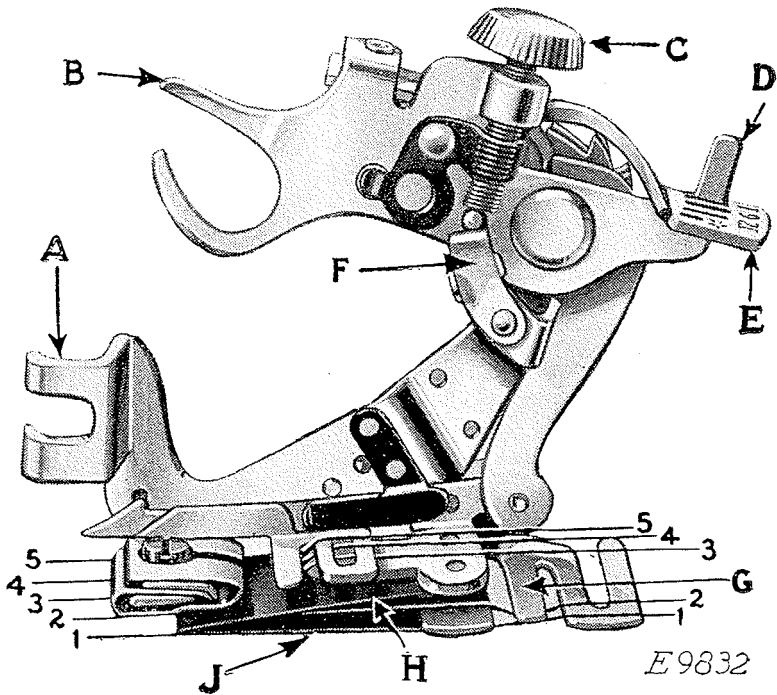
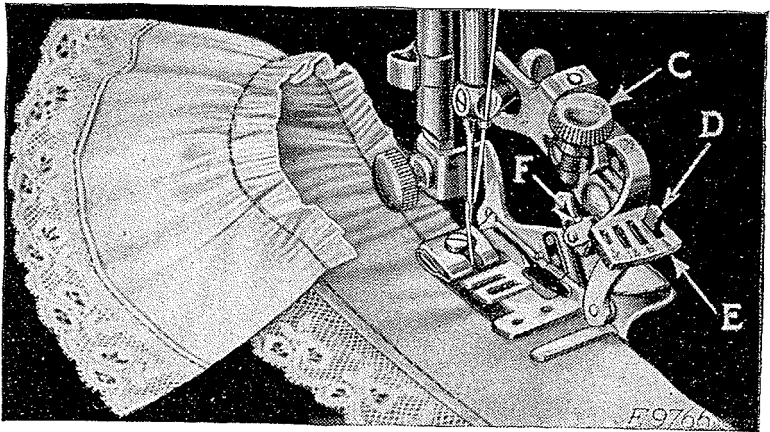
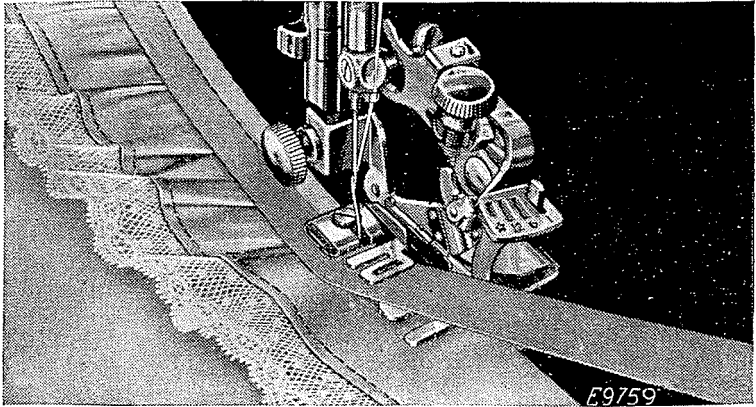
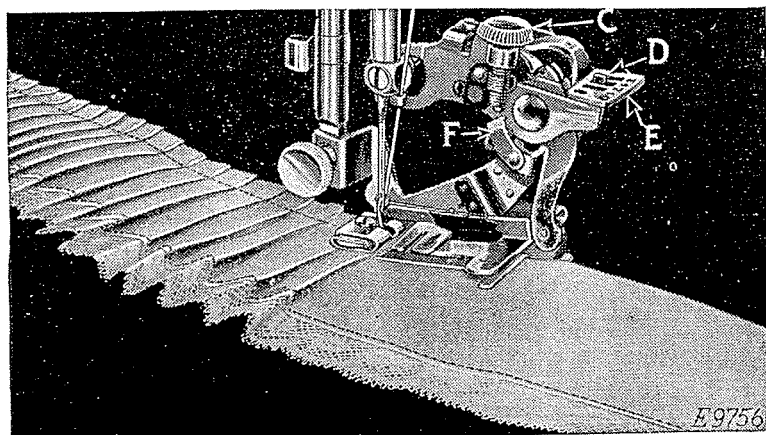

FIG. 59. THE RUFFLER AND ITS PARTS
FIG. 60
FIG. 62
FIG. 64
Lines 1, 2, 3, 4 and 5 shown in Fig. 59 indicate where the material is to be placed for various operations as follows:
Refer to Fig. 59 when inserting the material in the ruffler.
(SEE REFERENCES IN FIG. 59)
Raise the needle bar to its highest position and remove the presser foot. Attach the ruffler foot (A, Fig. 59) to the presser bar by means of the thumb screw, at the same time placing the fork arm (B, Fig. 59) astride the needle clamp as shown in Fig. 60.
The adjusting finger (F, Fig. 60) is not intended for gathering and should be moved forward or away from the needle, as shown in Fig. 60.
Raise the adjusting lever (E, Fig. 60) and move it to the left so that the projection (D, Fig. 60) will enter the slot marked "1" in the adjusting lever (E) when the lever is released. The ruffling blade will then move forward and back once at every stitch. Insert the material to be ruffled between the two blue blades, following the line 2 in Fig. 59. Draw the material slightly back of the needle, lower the presser bar and commence to sew.
To make fine gathering, shorten the stroke of the ruffling blade by turning the adjusting screw (C, Fig. 60) upward; also shorten the stitch. To make full gathering, lengthen the stroke of the ruffling blade by turning the adjusting screw (C) downward; also lengthen the stitch. By varying these adjustments, many pleasing varieties of work can be accomplished.
2, in Fig. 59. Place the garment to which the ruffle is to be attached, under the separator blade, following the line 1, in Fig. 59. Proceed the same as for gathering.
Insert the material to be ruffled between the two blue blades, following the line 2 in Fig. 59. Place the garment to which the ruffle is to be attached, under the separator blade, following the line 1, in Fig. 59. Place the material for the facing over the upper blue blade, as shown in Fig. 62, following the line 3, in Fig. 59. The facing may be straight or bias material. If the facing is to be on the right side of the garment, place the garment and
Insert the material to be ruffled between the two blue blades, following the line 2, in Fig. 59. This
The material for piping must measure about  $\frac{1}{4}$  inch wide when folded in the center and is usually cut on the bias. Place the piping material in the ruffler, following the line 4, in Fig. 59, with the folded edge of the piping to the right. The material to which the piping and ruffling are to be sewn should be folded on the edge and inserted in the ruffler, following the line 5, in Fig. 59.
Raise the adjusting lever (E, Fig. 64) and move it to the right so that the projection (D, Fig. 64)
will enter the slot marked "6" in the adjusting lever when the lever is released. The ruffling blade will then move forward and back once at every six stitches. To adjust the ruffling blade to make a plait once at every twelve stitches, place the adjusting lever (E, Fig. 64) so that the projection (D) enters the slot marked "12" in the adjusting lever. Insert the material to be plaited between the two blue blades, following the line (2, Fig. 59). The size or width of plaits is regulated by the adjusting screw
(C, Fig. 64) and the adjusting finger (F, Fig. 64). To make a wider plait, move the adjusting finger (F) back or toward the needle and turn the adjusting screw (C) downward. To make a smaller plait, turn the adjusting screw (C) upward. The distance between plaits is regulated by the length of stitch.